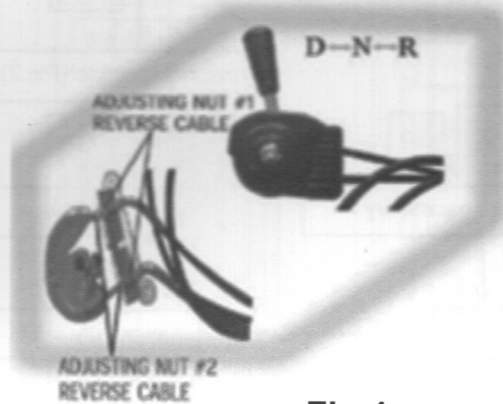

Fig.1
a. Push forward the gear to "D" position, then go forward, pull back gear to "R" position, then move backward. (See Fig.1)